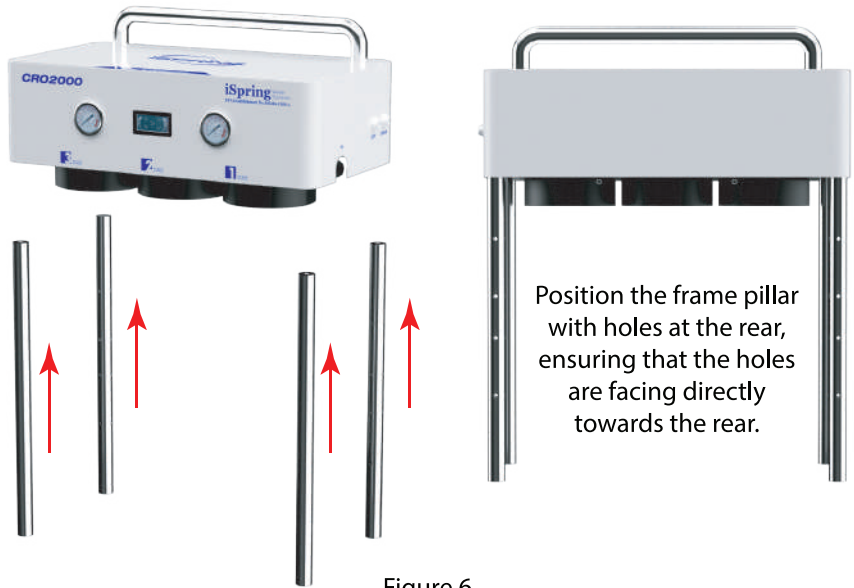

Figure 6.
1. Lean the system sideways with the screen facing upwards. (Use the packaging card boxes as cushions to avoid scratches). Screw the frame pillar clockwise into the machine head as shown in Figure 6.